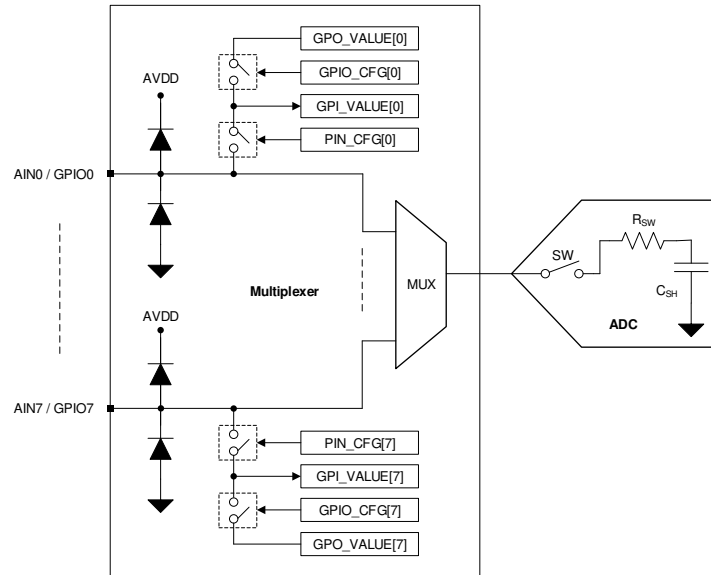

Figure 6-1. Analog Inputs, GPIOs, and ADC Connections
The eight channels of the multiplexer can be independently configured as ADC inputs or general-purpose inputs/outputs (GPIOs). As shown in Figure 6-1, each input pin has ESD protection diodes to AVDD and GND. On power-up or after device reset, all eight channels of the multiplexer are configured as analog inputs.
Figure 6-1 shows an equivalent circuit for the pins configured as analog inputs. The ADC sampling switch is represented by an ideal switch (SW) in series with a resistor (R_{SW} , typically 150 Ω) and a sampling capacitor (C_{SH} , typically 30 pF). During acquisition, the SW switch is closed to allow the signal on the selected analog input channel to charge the internal sampling capacitor. During conversion, the SW switch is opened to disconnect the analog input channel from the sampling capacitor.
To enable write access to the configuration registers for diagnostics, write 0x96 in the DIAGNOSTICS_KEY register. To enable bit-walk test mode, configure BITWALK_EN = 1b. In the bit-walk test mode (see Figure 6-1), the sampling switch (SW) remains open and the test voltage is applied on the sampling capacitor (C_{SH}) during the acquisition phase of the ADC. In diagnostic mode, the conversion process of the ADC remains the same as normal device operation. The ADC starts the conversion phase on the rising edge of \overline{CS} and outputs the code corresponding to the sampled test voltage. The output code of the ADC is expected to be proportional to the test voltage, as shown in Equation 2, after adjusting for DC errors (such as INL, gain error, offset error, and thermal drift of offset and gain errors).